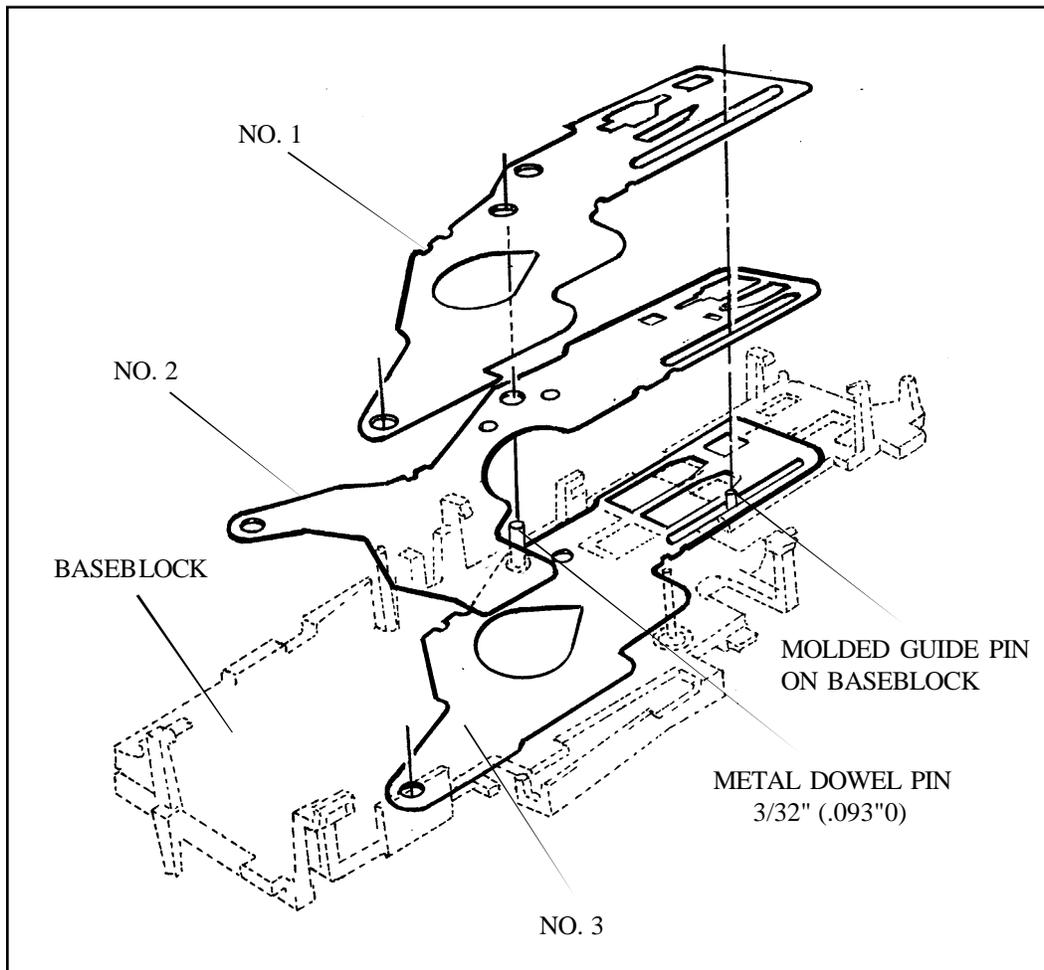

Figure 3-45. Replacing Shutter Blades in Baseblock
- When replacing Shutter Blades in Baseblock, temporarily insert a 3/32" (.093") diameter metal dowel pin in Baseblock (Figure 3-45) to aid in locating the Blades.